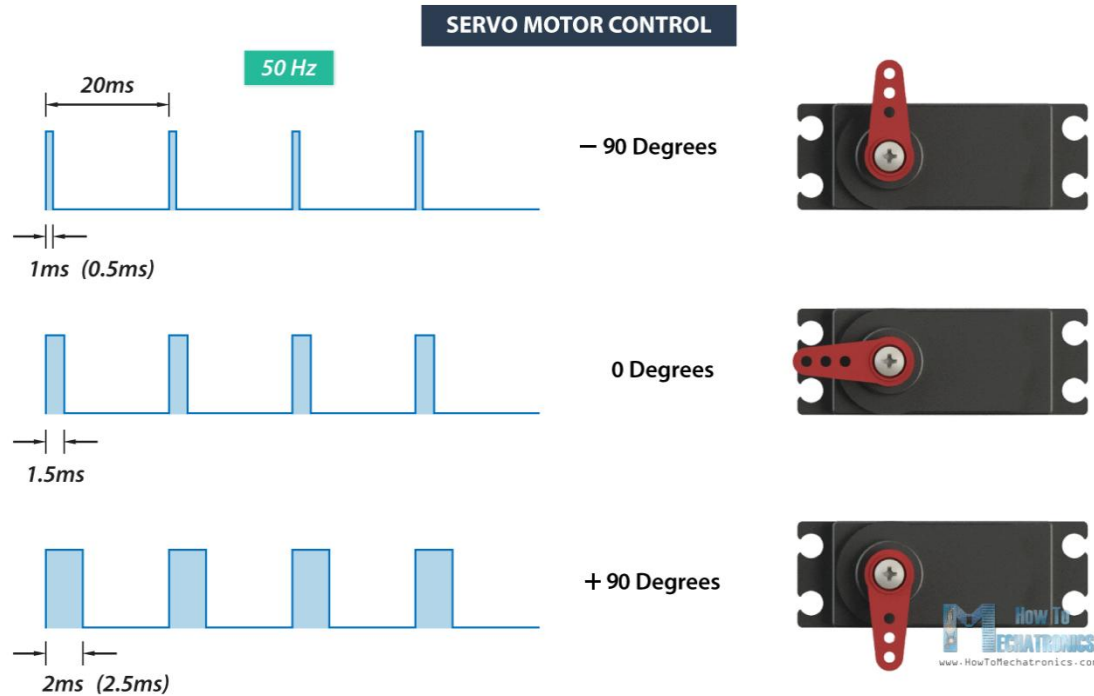

Figure 2. Servomotor PWM
14. Rerun the **servomotor.py** script. With the appropriate **delta** and **bias** parameters, use the UP and DOWN arrow keys on your keyboard to drive the servo the extreme positions. Note the maximum and minimum servo commands you can produce using the keyboard, as well as the value at which the servo stops moving. The **servoCmd** values between 0 and 1 should be able to drive the complete range of motion for the servo (± 90 degrees in each direction if using the provided DMOND DCS16LP servo) as shown in Figure 2. Did the bias term affect the limits of the motor?